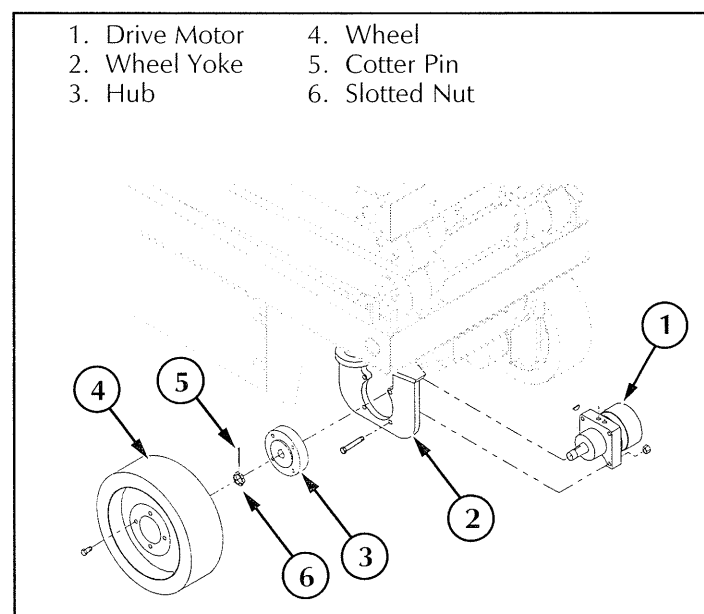

Figure 4-12: Drive Motor Installation
4.9 Hydraulic Drive Motors and Hubs (Figure 4-12)